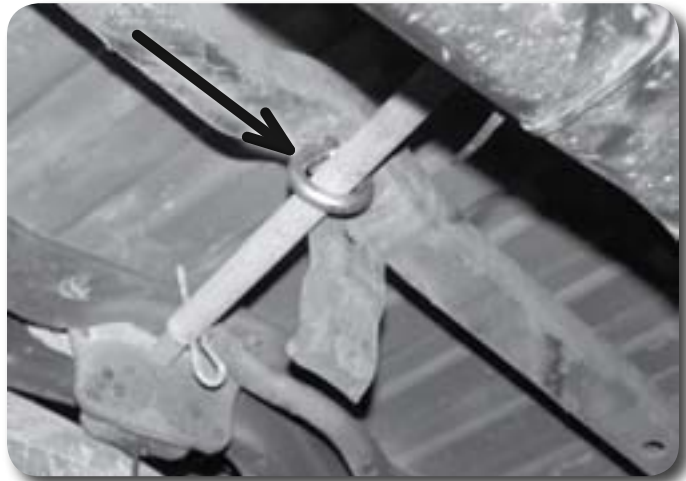

Figure 28
42. Install a 1/2" SAE washer on the provide 1/2" eye bolt and install the bolt through the hole in the cross member to the rear of the spare tire winch **Figure 28**. Fasten the bolt to the cross member with a 1/2" nut and 1/2" SAE washer but do not tighten.
43. Slide the winch crank rod through the eye bolt and install it on the spare tire winch with the stock hitch pin. Adjust the eye bolt so the crank rod runs perpendicular through the eye and tighten the nut securely **Figure 28**.